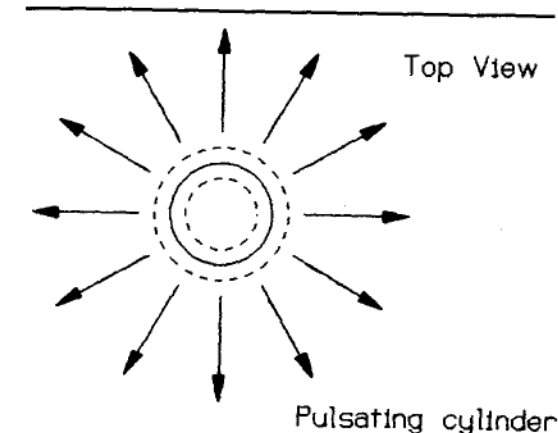

FIGURE 6-10: Wide-dispersion, cylindrical speaker.
**WIDE-DISPERSION ESLs.** You can use many techniques to achieve dispersion in an ESL, but you must have a curved wave front. A pulsating cylinder is a good example (Fig. 6-10).